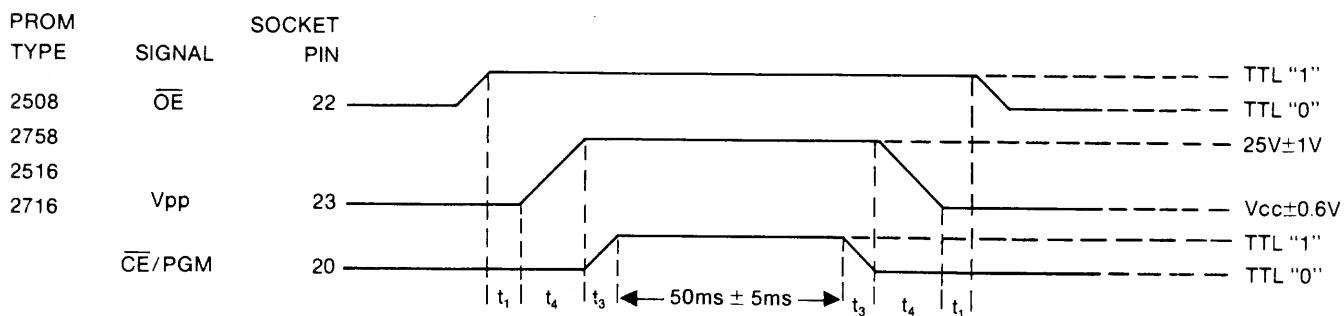

Figure 7-3. Programming Waveforms for Dynamic Test
**Key 7.** Press key 7 and ENTER. The M980 will display "F7 AAA," and the BUSY indicator on the PM9080 will be illuminated. This test puts the PM9080 into a continuous programming cycle. Check the appropriate pins for the programming waveforms below. The device selected by the hex switches will determine which of the waveforms in Figures 7-3 thru 7-6 will be generated.
**Key 8.** Press key 8 and ENTER. The M980 will display "F8 AAA." This test checks for shorts on Vcc, Vpp, address and data lines. If there are any shorts, "F8 E8" will be displayed for error. The OVERLOAD LED will illuminate if the short is on Vcc or Vpp. To repeat this test after an error is found, press ENTER. Press CLEAR to exit this test. The M980 will display "F8 F."
## TIMING NOTES FOR FIGURES 7-3 to 7-8